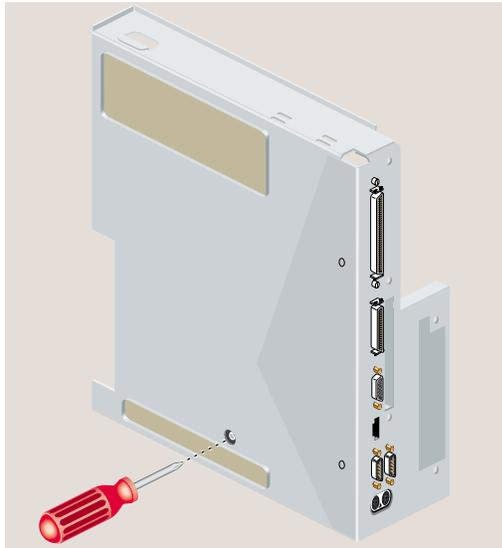

Figure 10 Reinstalling the Bottom CPU Support Screw
14. Reinsert the bottom screw to secure the CPU support into place as shown in Figure 10.